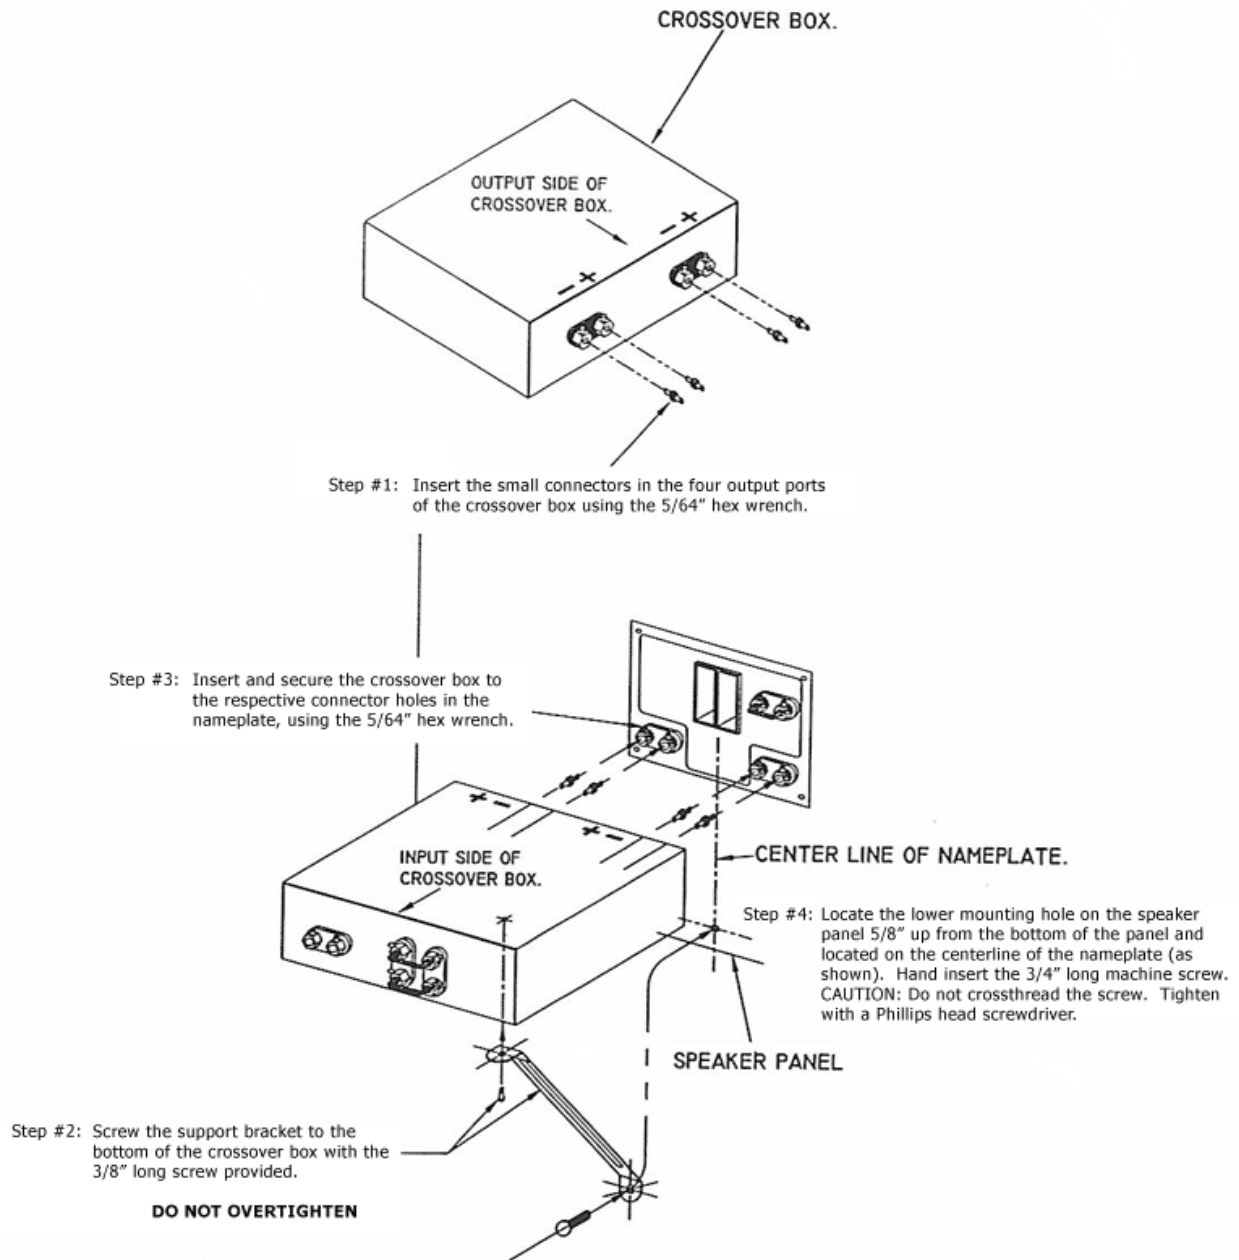

Figure 2
- A. Insert the small connectors in the four output ports of the crossover box, using a 5/64" hex wrench. See Figure 2, Page 4.